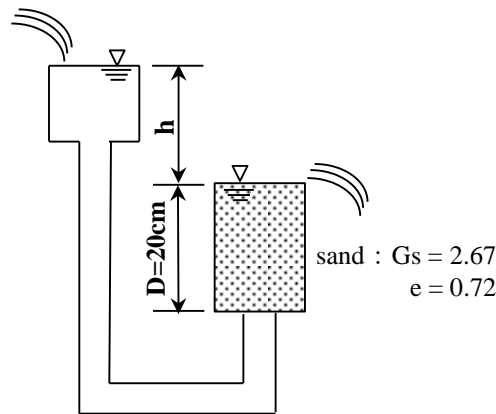

Fig. 2
- (1) The constant head permeability test under the condition of the difference in the total head, $h=20\text{cm}$ is conducted as shown in Fig. 2. The length of the sand specimen is 20cm . ① Find the critical hydraulic gradient, i_c . ② Find the necessary difference in the total head, h for the occurrence of quicksand.